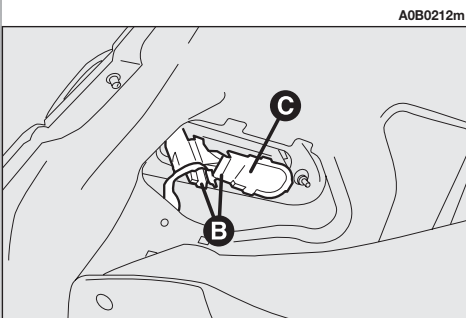
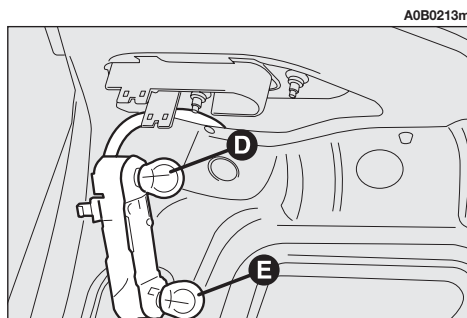

fig. 41
fig. 42
– Lower the boot lid trim in the corresponding area and remove the bulb holder unit (**C-fig. 41**) releasing the retainer tab (**B-fig. 41**).
– Remove and replace the spherical type bulb with bayonet attachment pushing it gently and turning counter-clockwise (**fig. 42**):
- (D) reversing light bulb
- (E) rear fog guard bulb.
– Refit the bulb holder unit fastening it correctly in place with the retainer tabs (**B-fig. 41**).